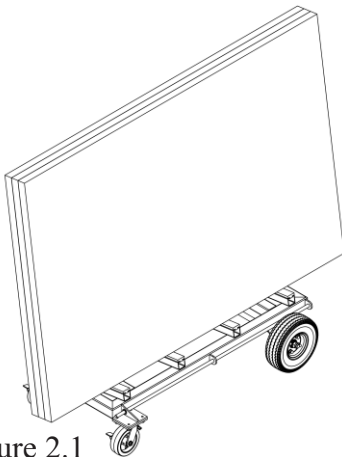

Figure 2.1
Step 2: Place the stone slabs on the Slab Buggy (Figure 2.1).